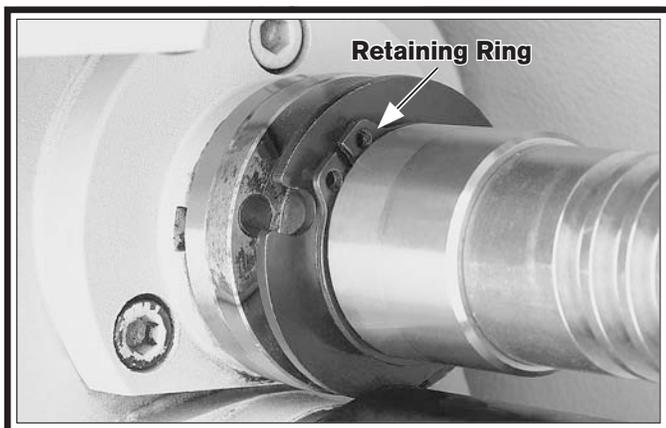

Figure 134. Shear pin access.
5. Move the retaining ring shown in **Figure 134** away from the shroud washer, then move the shroud washer away from the shear pin and against the retaining ring. This will create room for you to remove the shear pin.